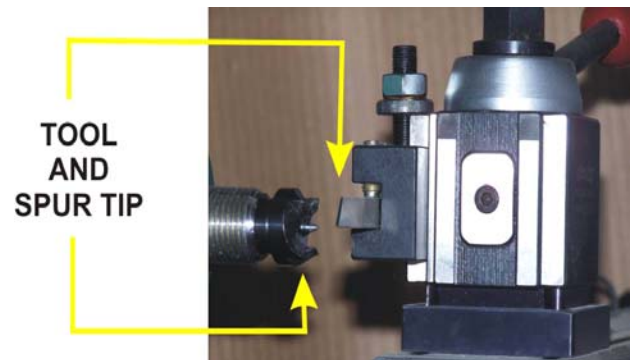

Figure 5.1
- After positioning the tool on the **TOOL POST**, check to make sure that the **TOOL TIP** is slightly higher than the **SPUR TIP** and the **LIVE CENTER TIP**. (Figures 5.1 and 5.2) If it is not, loosen the **LOCK NUT** and adjust the tool height with the **HEIGHT ADJUSTING NUT** and lock the **TOOL POST** lever to confirm the tool height.